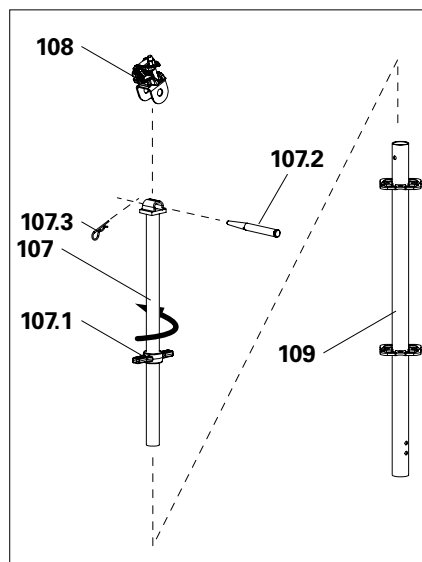

Fig. D3.03
1. Pin the Spindle Head SRU (107) and Coupling EVW (108) with a fitting pin (107.2) and secure them with a cotter pin (107.3).
3. Insert the spindle head into Top Standard UVH (109).
- (Fig. D3.03)